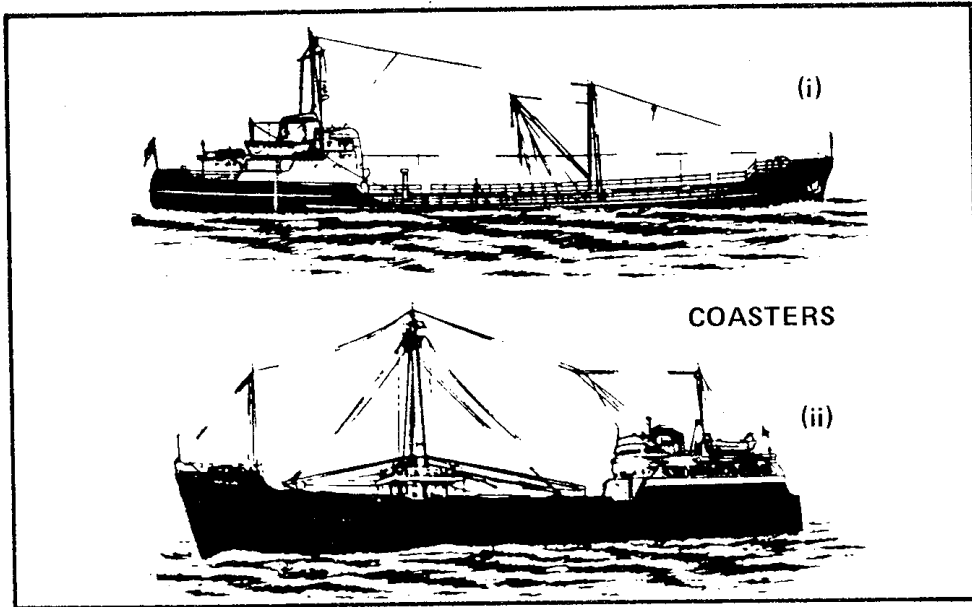
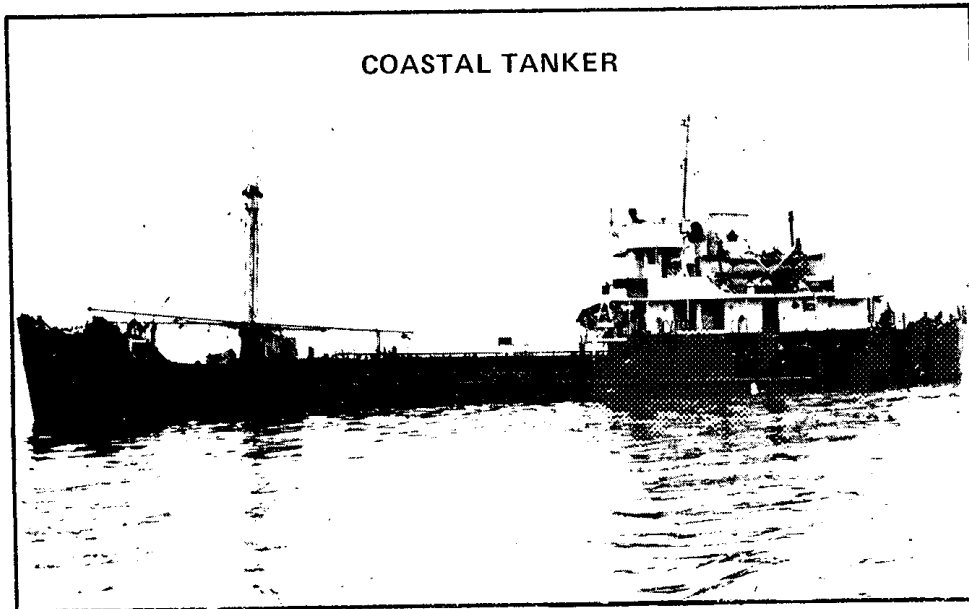

Figure 8-68 Coasters
Figure 8-69 Coastal Tanker
- d. **Coasters** — (See Figures 8-68 and 8-69.) Coasters are small cargo vessels, usually under 2,000 tons gross and of slow speed, employed on coastal trade. They are not built for ocean trade and have a limited radius of action. They have similar features to their larger sisters, and often can only be distinguished from them by their size. They may be classed according to their cargoes; as coastal bulk carriers (Figure 8-68(i)), coastal cargo vessels (Figure 8-68(ii)) or coastal tankers (Figure 8-69), etc.